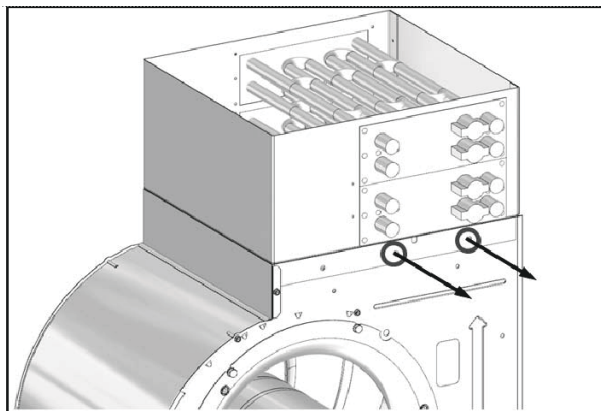

Fig. 13 – Remove Two (2) Screws
3. Remove two (2) screws on heater collar as shown in Fig. 13.